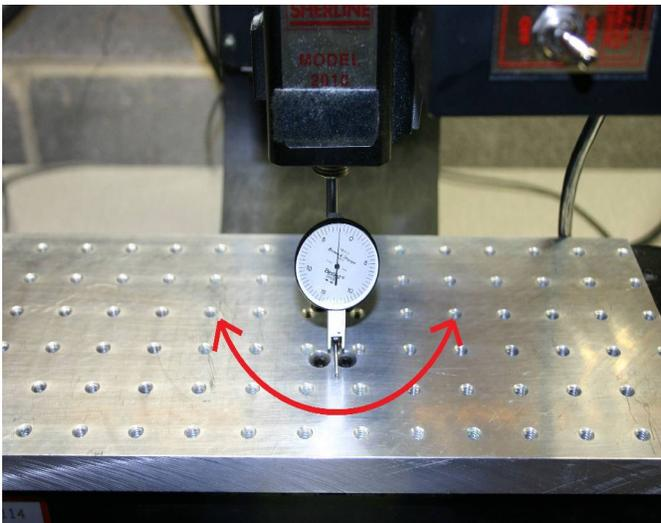

Figure 14
5. The indicator needle should give the same reading at each end of the half circle. To adjust the spindle you will need to partially loosen the screws shown in figure 14.